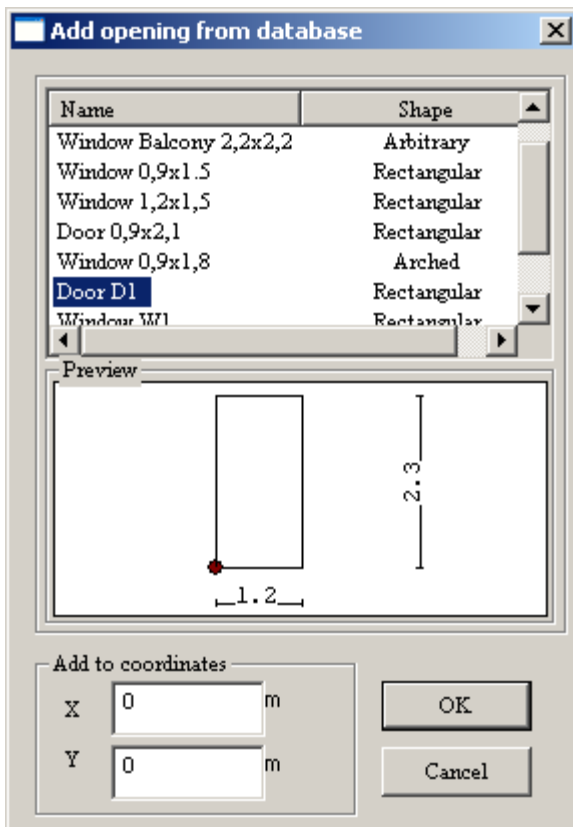

Figure 1.6.8 **Add opening from database** dialog box
- in the **Add opening from database** dialog box (see Fig.1.6.8), do the following: